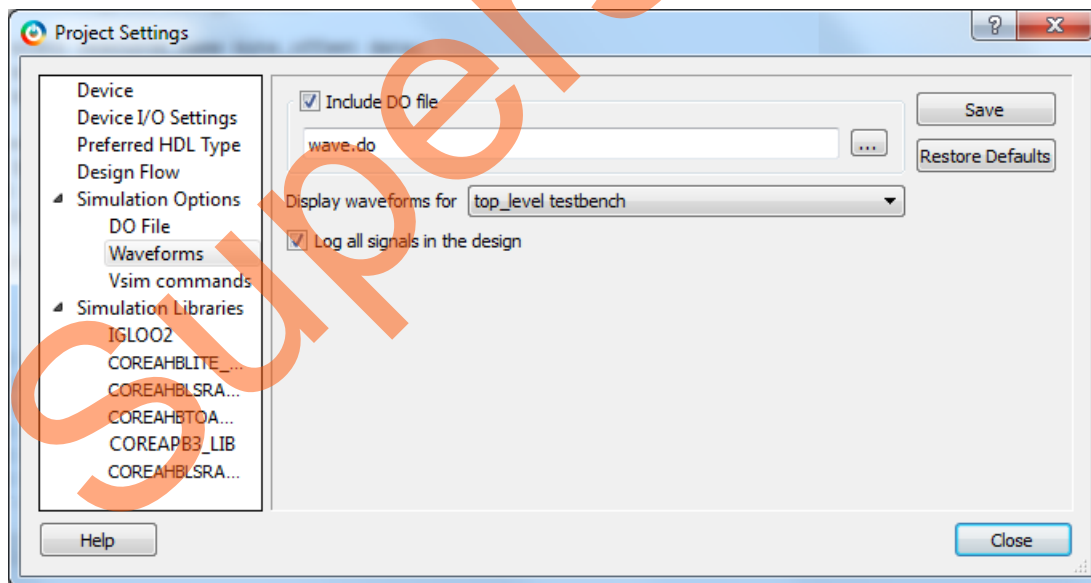

Figure 39 • Project Setting – Waveform
6. Select **Waveforms** under **Simulation Options** as shown in Figure 39.